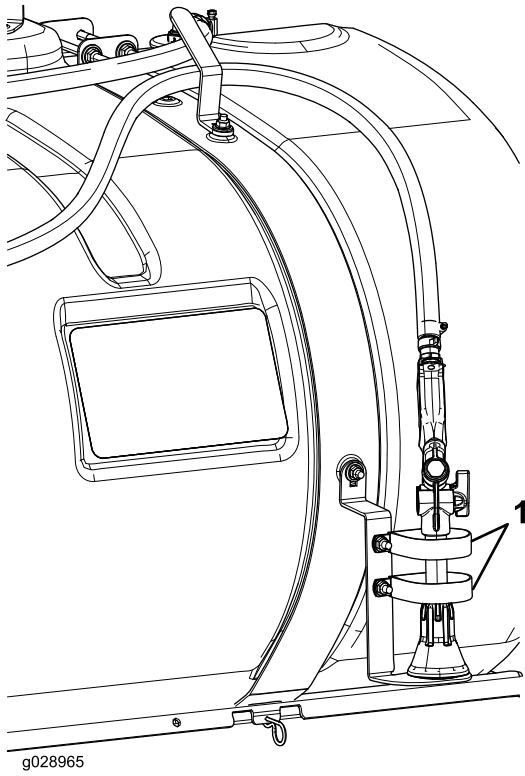

Figure 34
5. Install the spray-gun bracket onto the carriage bolt with a washer and a locknut (5/16 inch) as shown in Figure 34.
Note: Refer to Figure 34 for the correct position of the R-clamps.
5. Wrap the hose around the hooks of the tank and secure the gun in the R-clamps as shown in Figure 34.